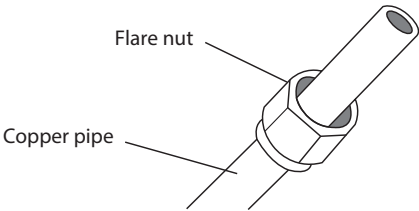

Fig. 6.5
- 3. Place flare nuts on both ends of pipe. Make sure they are facing in the right direction, because you can't put them on or change their direction after flaring. See Fig. 6.5